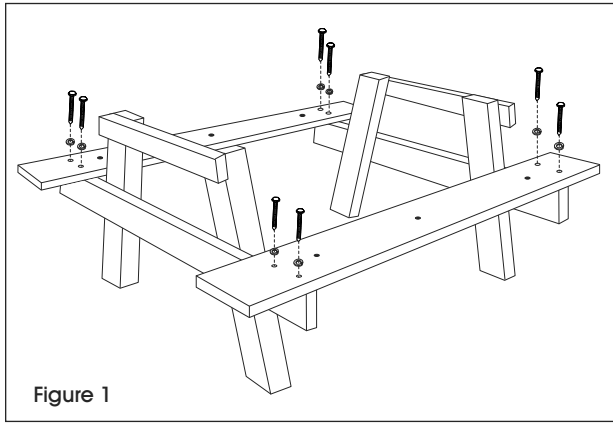

Figure 1
4. Loosely attach seats with metal brace to A-Frame base with the 3 1/2" lag screws and washers using the power drill and 7/16" socket bit (will tighten later in step 8). (See Figure 1)